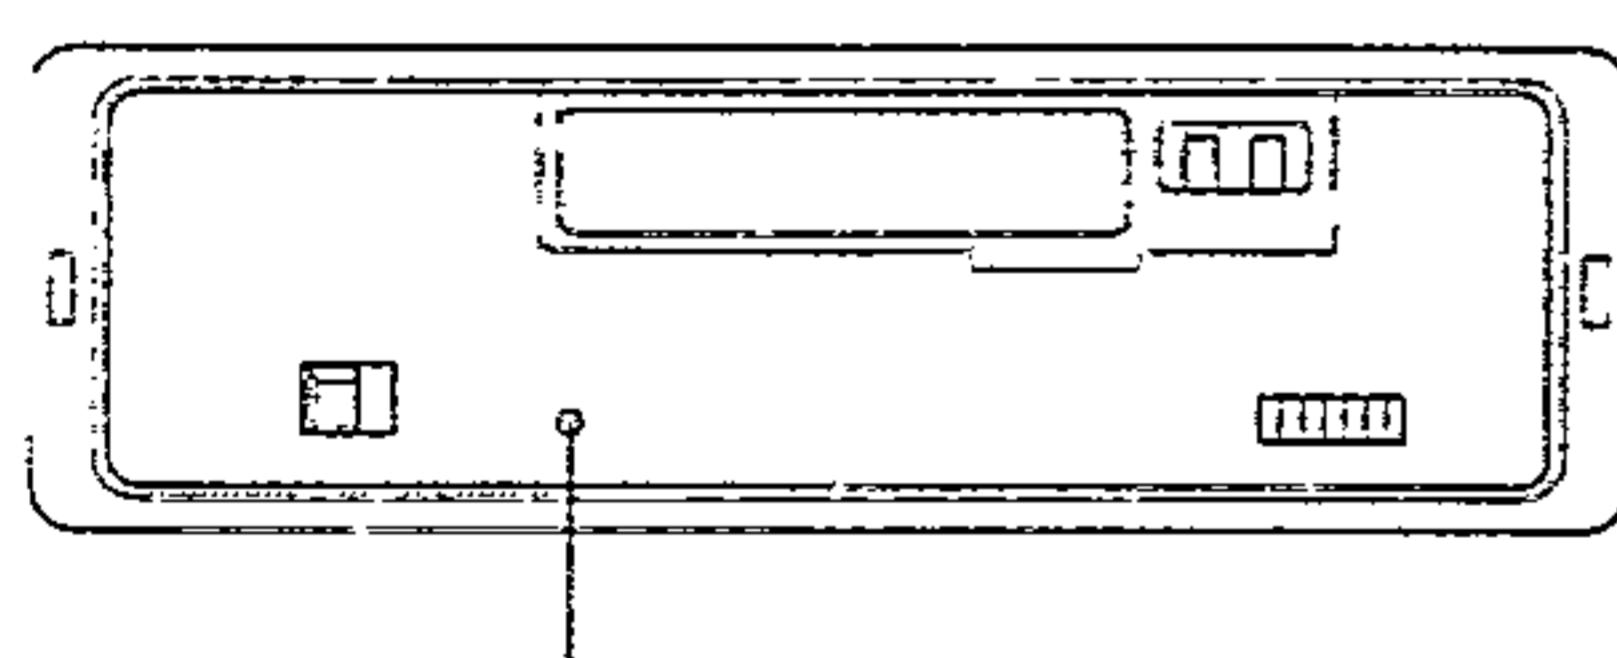

Fig. 8
- The clear button can be located on the unit after you have removed the front panel. (Fig. 8)